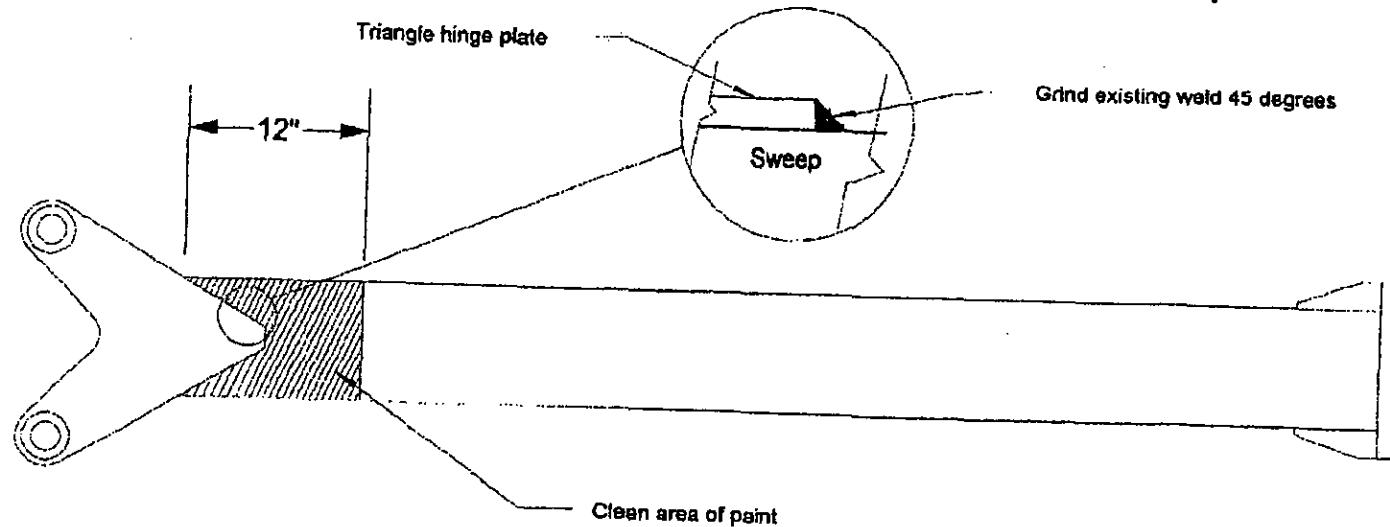

Figure 1
- Step 4: Clean off paint and around where edge of gusset plate will be welded to sweep (see fig. 1, drawing SOSA010C).
- Step 5: Grind weld around triangle hinge plate (See figure 1 Drawing SOSA010C) so weld is about 45°.
- Step 19: Taper weld from side point of top plate to side gusset as described in figure 1 drawing SOSA010E.